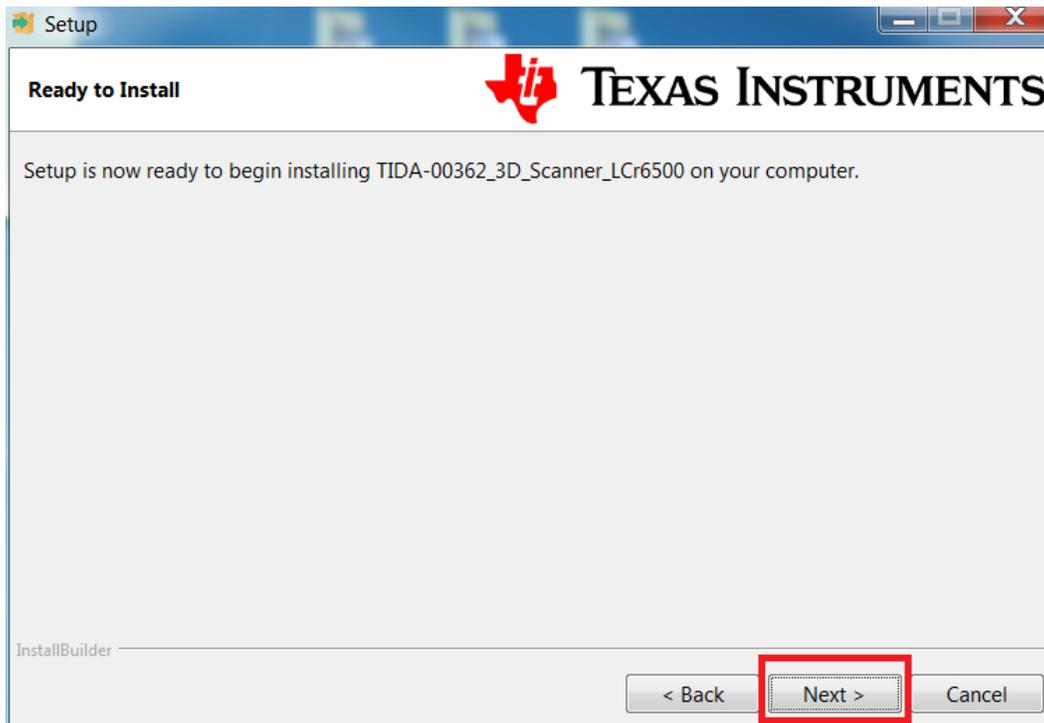

Figure 2-23. 3D Scanner Reference Design Installation Confirmation
6. The installer is ready to install, click the "Next" button to start the process, as shown in Figure 2-23.